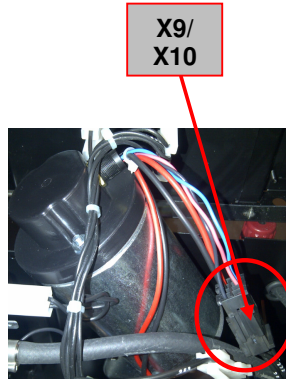

Figure 8
7. Unplug motor connectors X9/X10. See **Figure 8**.